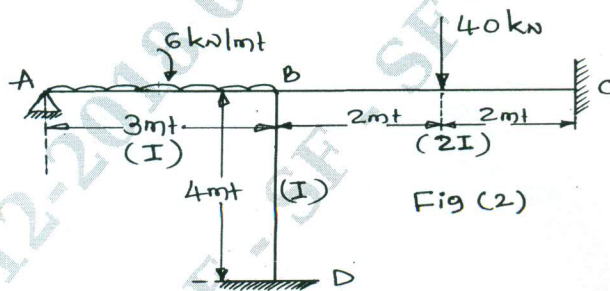

Fig.Q2
- 2 Analyse the frame shown in Fig.Q2 using “Slope Deflection method”, and draw BMD and SFD. (20 Marks)